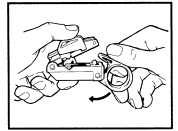

Figure 3
**B. Open tool** by rotating locking latch downwards (Fig. 3).